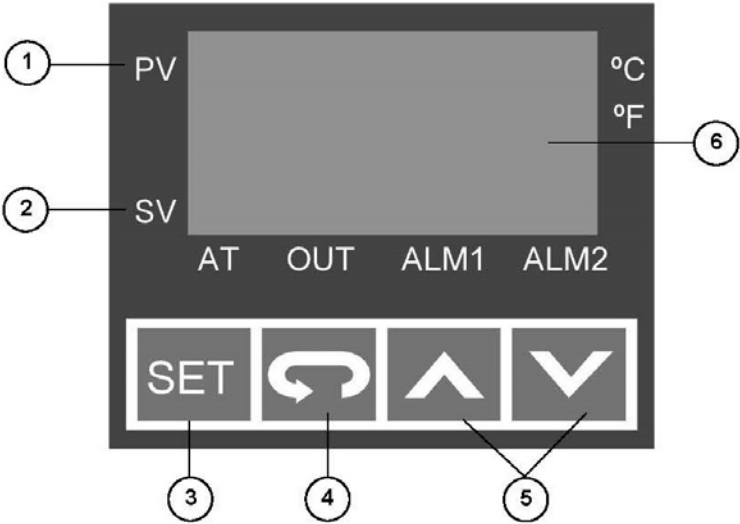

Figure 10-1
3. To change the temperature Set Value “SV,” press either UP or DOWN arrow (Figure 10-1, Item 5).
5. Use the UP or DOWN arrows (Figure 10-1, Item 5) to change the number to the desired value (Holding the buttons down continuously will result in rapid change of the value).
6. Once the desired value is established, press the set key (Figure 10-1, Item 3) to save the changes and the numbers will return to normal NON-FLASHING numbers.